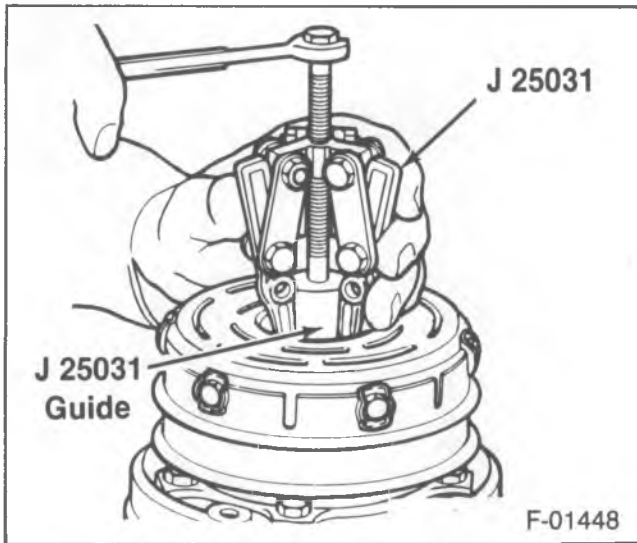

Figure 10—Removing the Clutch Rotor Assembly
- Engage the legs of J 25031 into the recessed edge of the rotor hub (figure 10).